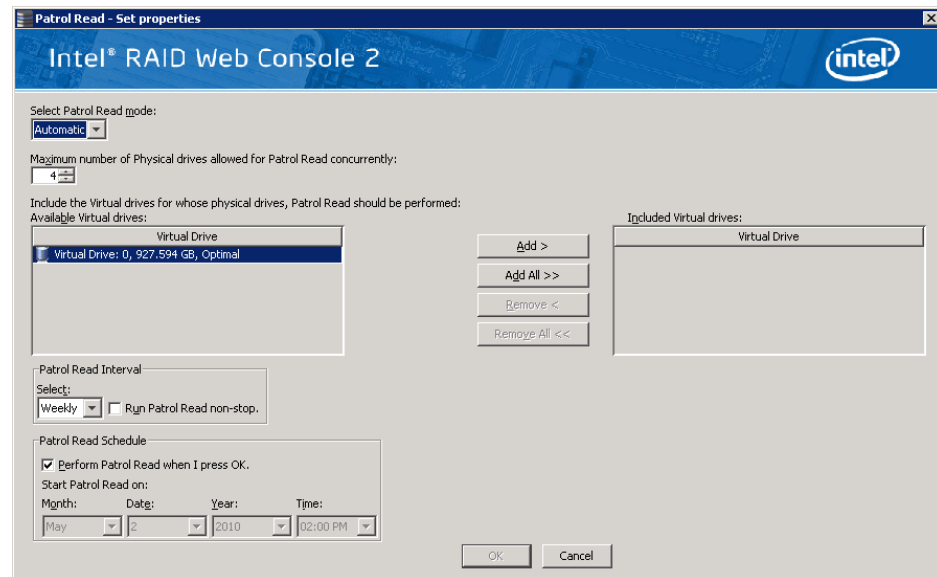

Figure 83. Patrol Read Configuration
2. Select the **Go To -> Controller** tab and click **Set Patrol Read Properties** to display a pop-up window, as shown in Figure 83.
- **Manual:** Patrol Read runs only when you manually start it by selecting **Start Patrol Read** from the controller options screen (see Figure 83).